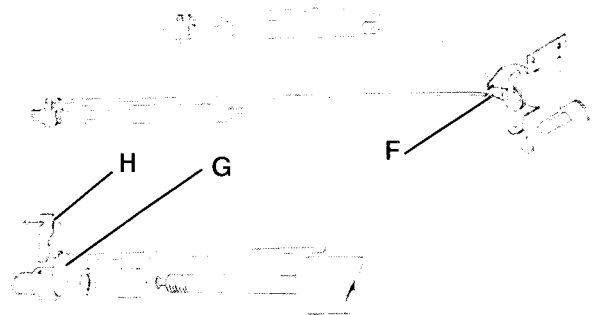

Figure 4
its housing (F) (see figure 4).
13. Remove the release head (G) cable and its lever (H) from every gas cylinder (see figure 4).
1. Place the cable adjusters into their accommodation slots on the Trendelenburg/Reverse Trendelenburg handle support, and attach the cable to the handle (see figure 4).